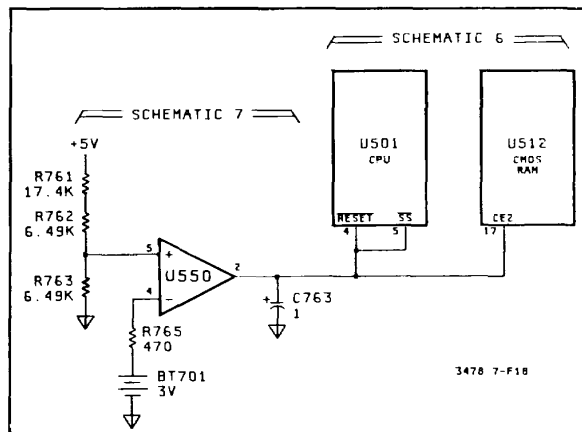

Figure 7-F-18. Power-On Circuitry
a. Power-On Circuitry. Refer to Figure 7-F-18, or Schematic 3 and 4. The Power-On Circuitry resets the CPU when the 3478A is turned on and when +SV power supply is low. The step by step operation is as follows: